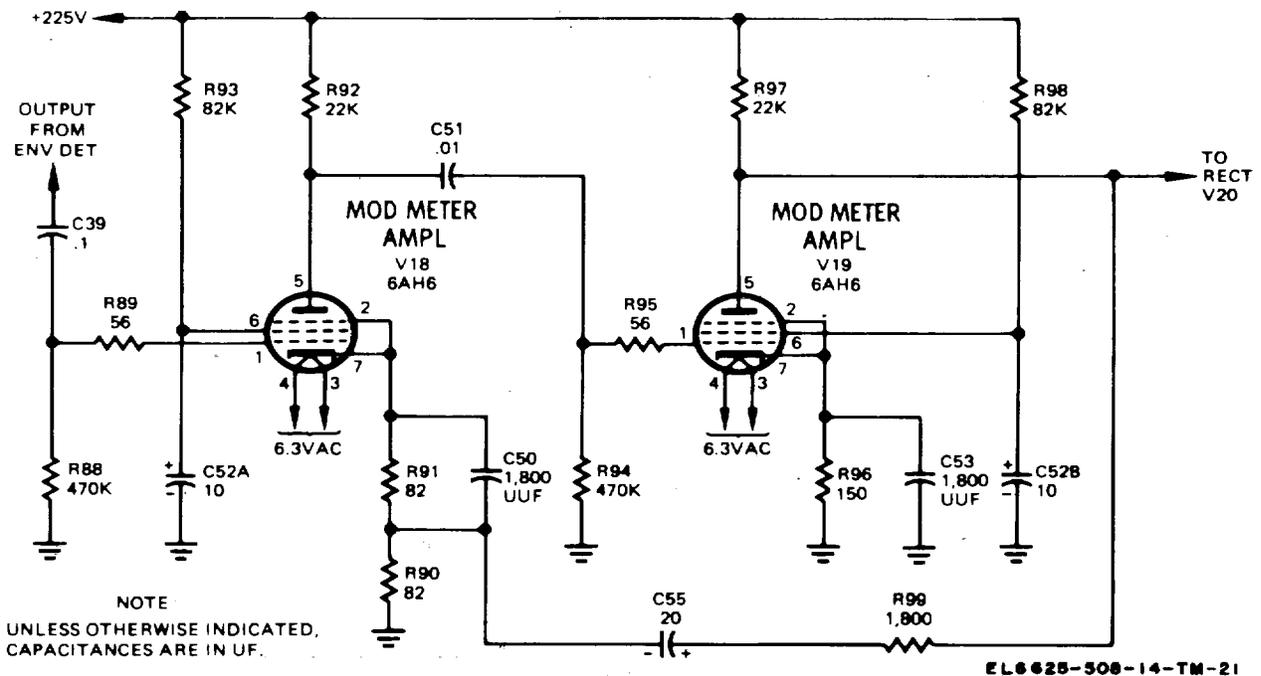

Figure 5-12. Modulation meter amplifiers, schematic diagram.
(1) An increase of signal amplitude increases current flow through the lamp, resulting in increased filament resistance and increased signal voltage at the cathode of V2A.
(2) Conversely, a decrease in signal amplitude will result in a decreased signal voltage at the cathode of V2A.
a. Vacuum tubes V18 and V19 (fig. 5-12) constitute the modulation meter amplifiers.